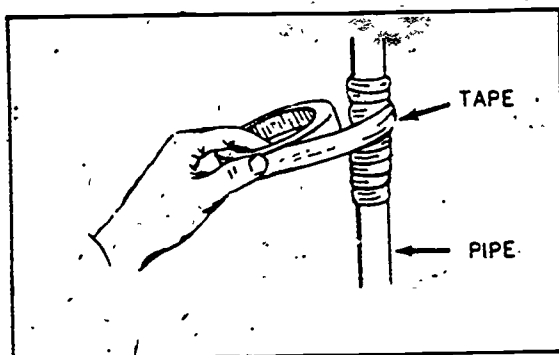

Figure 6-3. Repairing a hole in a pipe with electrician's tape.
d. Rubber tape. Another way to temporarily repair a small hole or crack in a pipe is by wrapping it with several layers of electrician's rubber tape, as shown in figure 6-3.